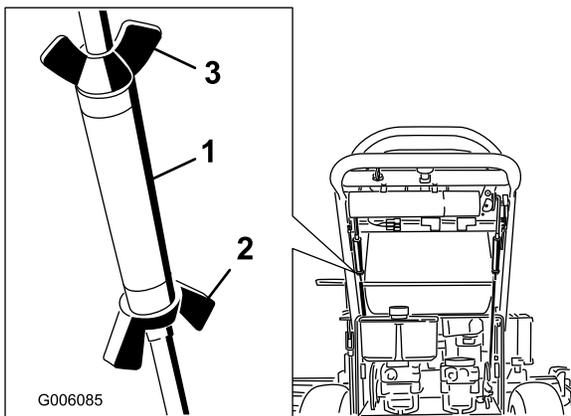

Figure 58
- Loosen the wing nuts on the right control rod and rotate the turnbuckle in or out to ensure the right side control lever is centered in the neutral lock position. Secure the turnbuckle in position with the wing nuts (Figure 58).
- Loosen the wing nuts on the left control rod and rotate the turnbuckle in or out to change the tracking. Secure the turnbuckle in position with the wing nuts (Figure 58).